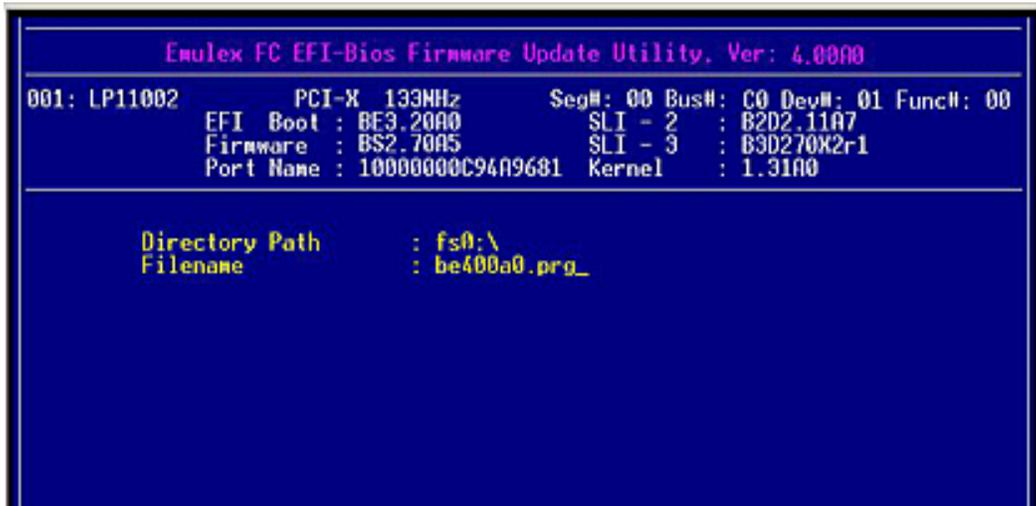

Figure 60: Directory Path and Filename Information
3. Enter the directory path and filename in the screen that is displayed (Figure 60). Press **<Enter>**.